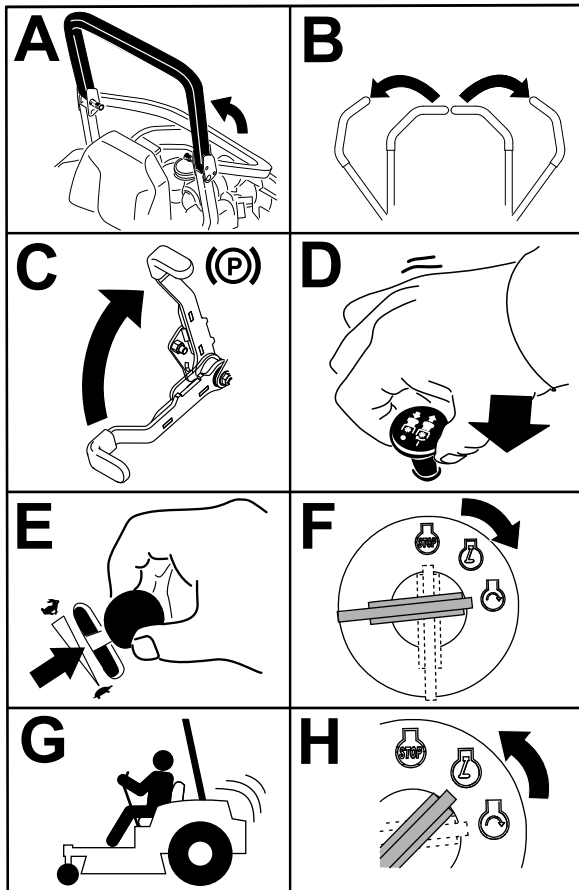

Figure 19
4. Move the blade-control switch (PTO) to the OFF position (Figure 19).